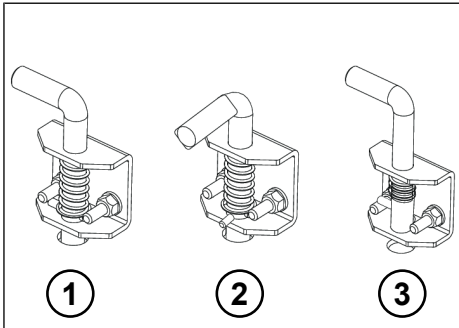

Fig. 8-67: Locking positions for retainer bolts
- ▶ Move the retainer bolt on the transverse beam to Position 2 (see "Fig. 8-67: Locking positions for retainer bolts", pg. 163).
- ▶ Move the retainer bolts to Position 1 (see "Fig. 8-67: Locking positions for retainer bolts", pg. 163).
- ▶ Move the retainer bolts for the posts on the transverse beam to Position 2 (see "Fig. 8-67: Locking positions for retainer bolts", pg. 163).
- ▶ Move the retainer bolts for the posts to Position 3 (see "Fig. 8-67: Locking positions for retainer bolts", pg. 163) so that the posts are seated in the transverse beam up to the stop.
- ▶ Move the retainer bolts for the posts to Position 1 (see "Fig. 8-67: Locking positions for retainer bolts", pg. 163).
- ▶ Move the retainer bolts for the posts to Position 3 (see "Fig. 8-67: Locking positions for retainer bolts", pg. 163).
- ▶ Move both retainer bolts on the transverse beam to Position 3 (see "Fig. 8-67: Locking positions for retainer bolts", pg. 163).